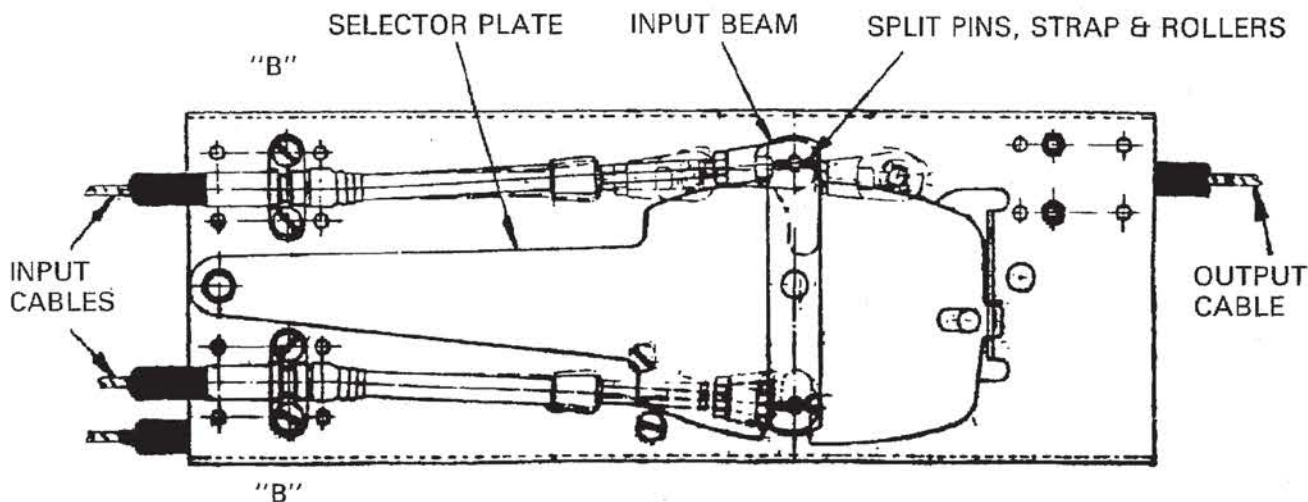
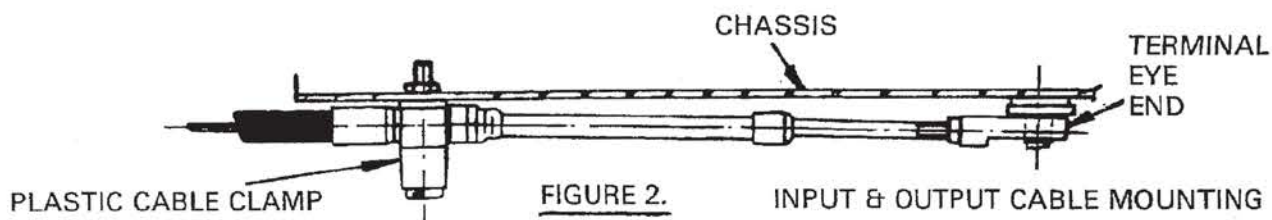
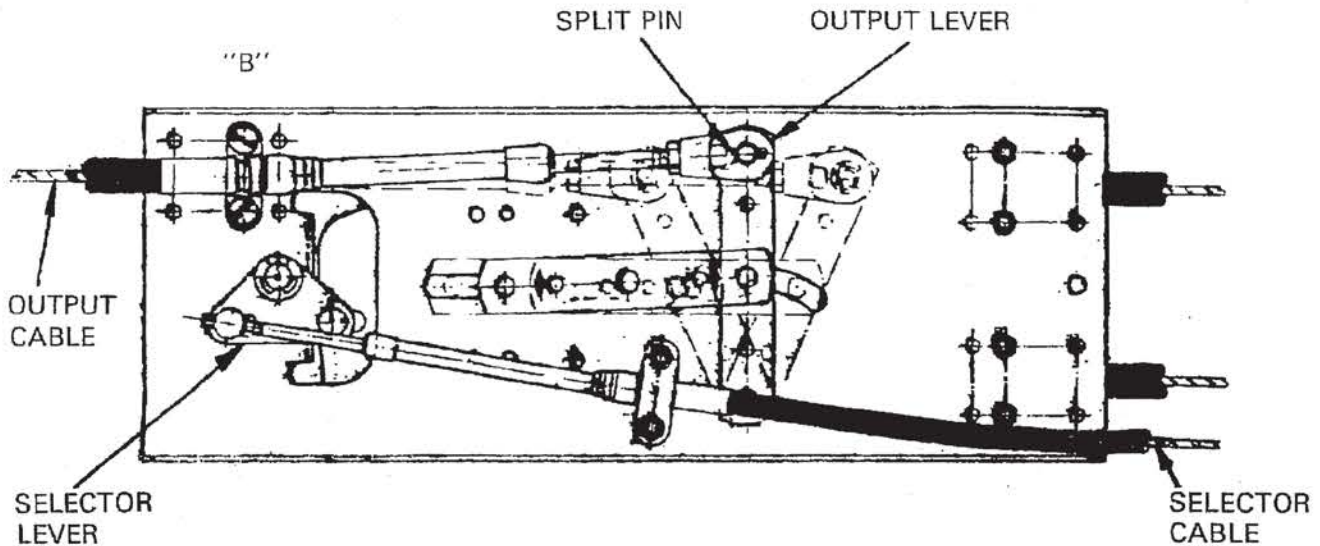

FIGURE 1.
FIGURE 2.
FIGURE 3. REAR VIEW OF UNIT IN NEUTRAL POSITION
When used with Single Lever Controls to operate GEAR, mount the cables in positions marked "B" on the chassis as shown in figures 1 & 3.
Remove split pins, strap and rollers figure 1.
Secure cable hubs to unit using plastic cable clamps, pan head M5 screws and nuts provided, in position "B" figure 1 and as shown in figure 2.
3. Lock the input beam using two 5 mm dia. pins (not included) in the neutral (central) position as shown in figure 1, enter pins from the rear of the unit.
Secure cable hub to unit using plastic cable clamp, pan head M5 screws and nuts provided, in position "B" figure 3 and as shown in figure 2.
5. Route selector cable to unit shown in figure 3. (Selector control head see separate instructions).
Secure cable hub to unit using plastic cable clamp, countersunk head M5 screws and nuts provided, in position as shown in figures 3 and 4.
Connect cable to selector lever in position as shown in figure 3 and secure with split pin.